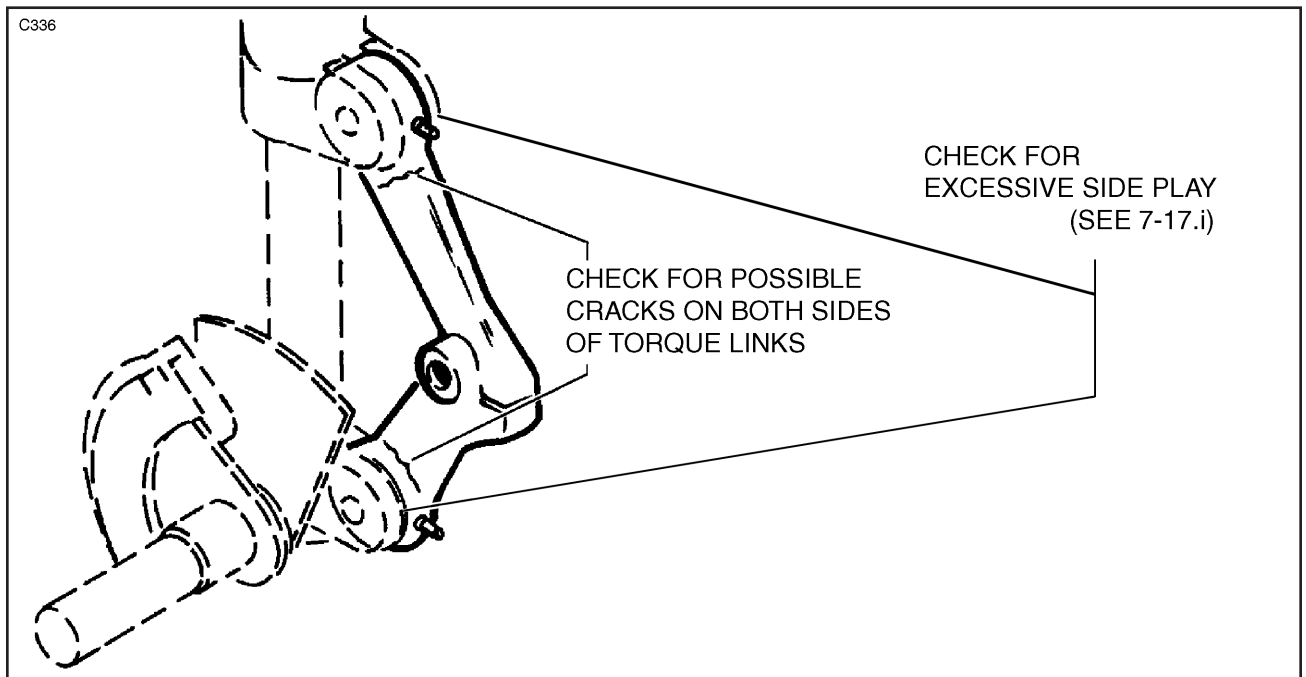

Figure 3-22
- (a) Inspect each main landing gear torque link for cracks in areas shown in Figure 3-22. These cracks may form just behind the large boss which attaches to the strut or to the wheel, and in the center of the link progressing toward the edge. The following steps should be used to make this inspection: